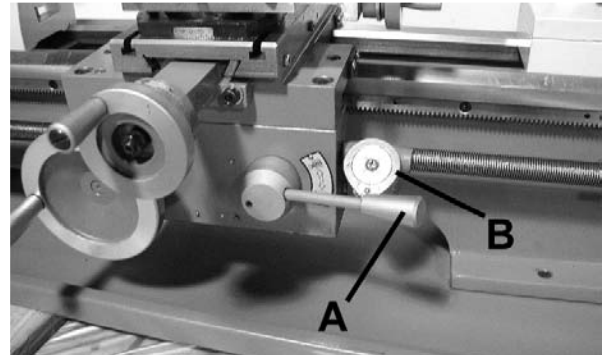

FIGURE 18
To obtain a desired feed rate, the correct gear configuration must be set as shown in "Feed Rate" chart Fig.6. The longitudinal auto-feed lever (A) Fig.18 is used to engage the half-nuts for longitudinal feeding of the carriage. This lever has 2 positions; the lower position engages the half-nuts to start longitudinal feed and the upper position disengages the half-nuts to stop longitudinal feed.
When cutting inch threads, the auto-power feed and thread cutting dial (B) Fig.18 are used. The threading dial Indicator chart Fig.7 specifies at which point a thread can be engaged using the threading dial.
The thread cutting dial (B) Fig.18 is used to engage the half nuts with the leadscrew in the same thread that has been previously cut. The threading dial Indicator chart Fig.7 specifies at which point a thread can be engaged using the threading dial.